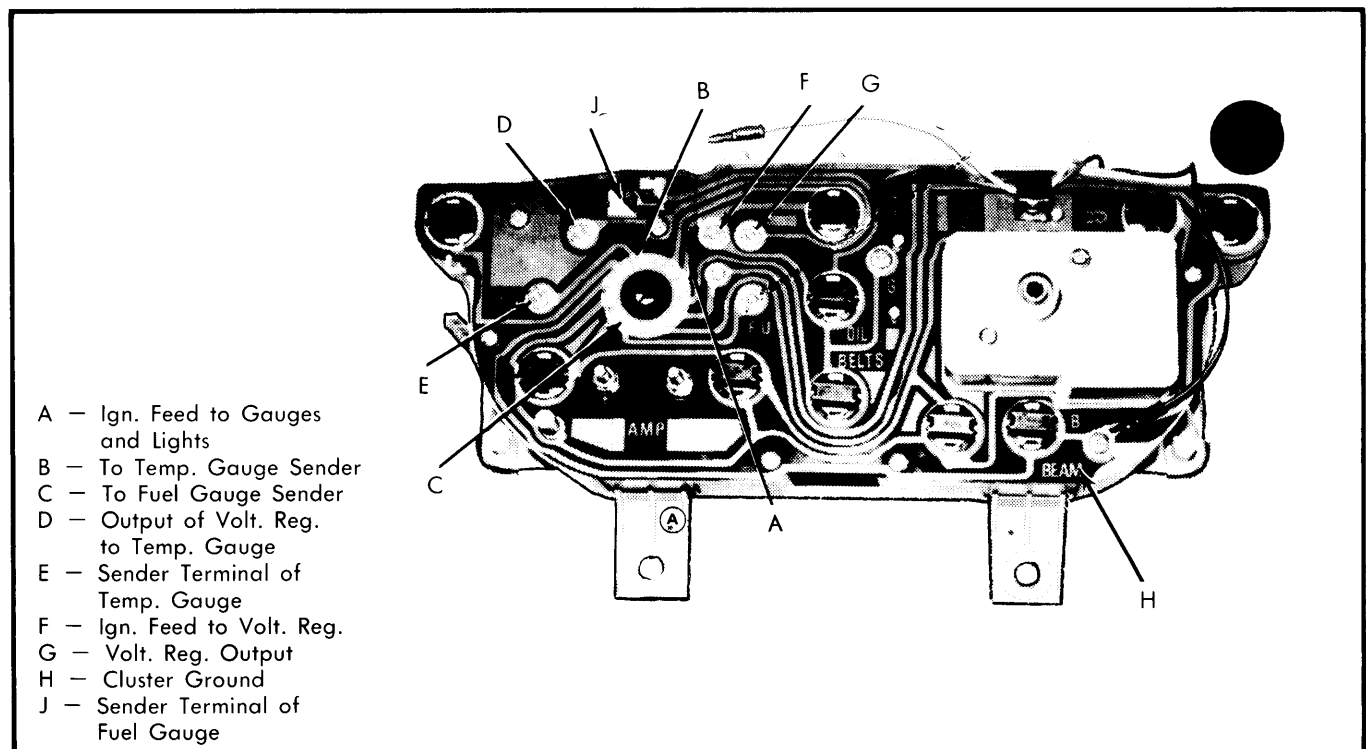

Fig. 1 Connection Points for Testing Courier XLT Instrument Cluster
1) Remove cluster far enough to reach rear connections with test leads. Connect a jumper wire between cluster ground terminal and a good chassis ground. See Fig. 1.